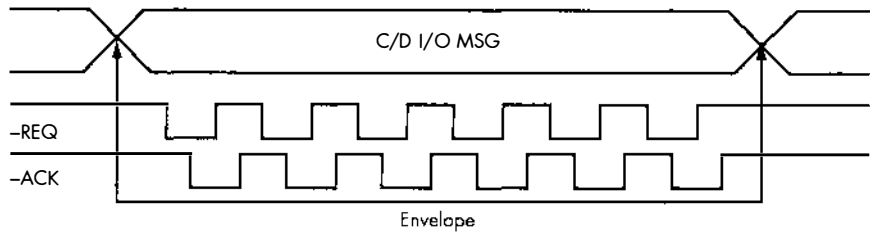

Figure 7.16: Enveloping the REQ/ACK Handshakes Until the End of the Handshake
8. The target continuously envelopes the REQ/ACK handshake(s) with the C/D, I/O, and MSG signals so that these signals are valid for a bus settle delay (400 ns) before the assertion of REQ, and they remain valid until the negation of the ACK signal at the end of the handshake of the last transfer of the phase, as shown in Figure 7.16. This is necessary to prevent the initiator from thinking that the current phase has ended.